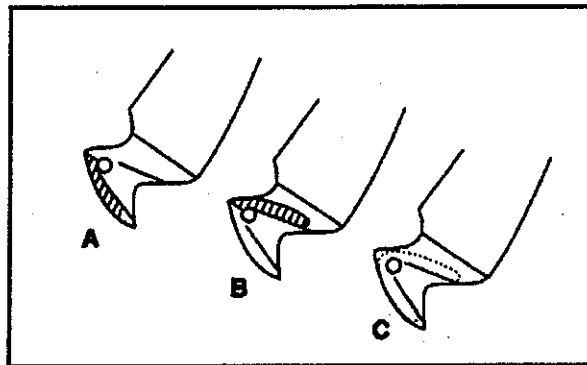

FIG.4
1) If the felt pen marking looks like A (Fig.4),
2) If the felt pen marking looks like B (Fig.4),
3) If the felt pen marking looks like C, adjust the blade pressure (Fig.4).